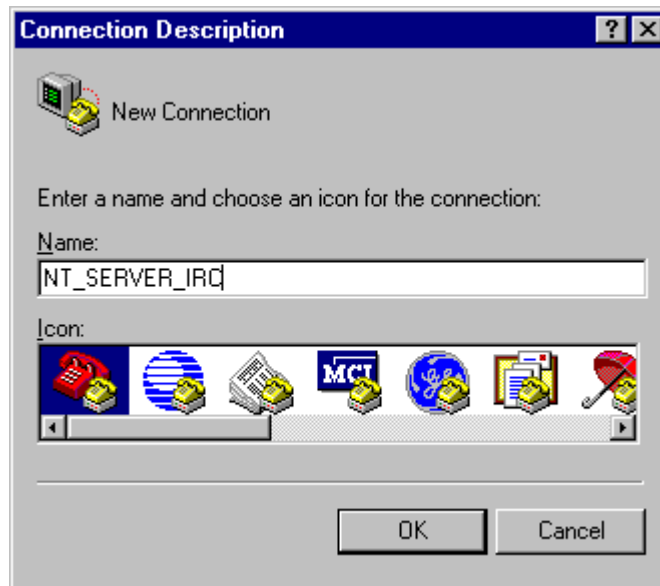

Figure 3-4. Entering a connection file name
1. Select New Connection from the File menu. The initial dialog box, shown in Figure 3-4, prompts you for a name for the connection file.